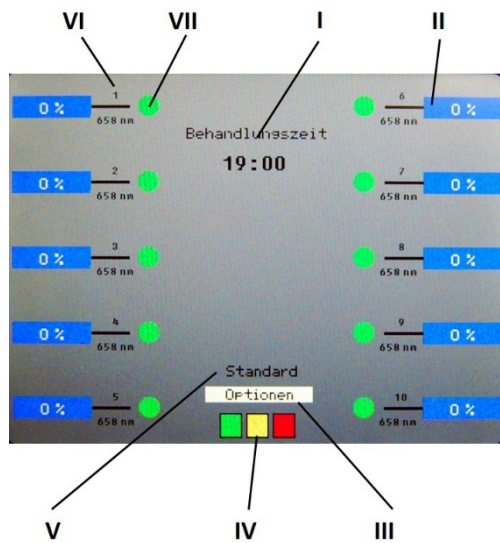

Figure 17: Main overview screen
The main overview screen is the default display of the device. It is displayed during the treatment (Fig. 17). The screen contains information on all ten lasers and on the treatment time.
- Simultaneous control** - (all lasers at once) is done using the main control options (III, IV, V) on the main overview screen. To choose between them, use the arrow buttons and the confirmation button (Fig. 17).
- Standard (V):